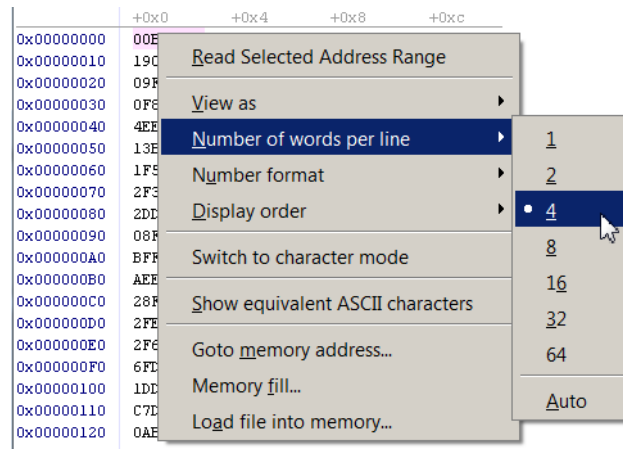

Figure 42. Setting the number of words per line.
- Number of words per line - the number of words per line can be configured to make it easier to find memory addresses, as depicted in Figure 42.